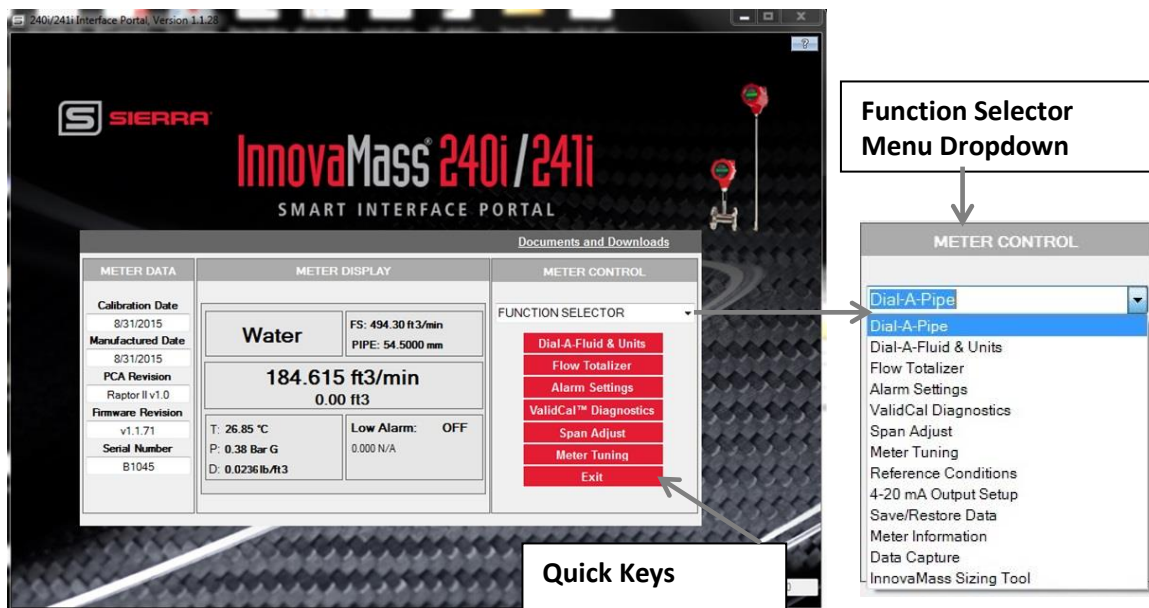

Figure 7. Main Menu-Meter Control Section
The “Meter Control” section enables direct configuration of the meter. The function selector dropdown menu gives access to all of the available meter function screens. There are also a series of quick key buttons, like “Dial-A-Pipe”, “Dial-A-Fluid & Units”, “Flow Totalizer”, “ValidCal”, “Meter Tune”, and “Meter Settings” to allow for rapid adjustment of application conditions and meter. See Figure 7.
Quick Keys on the main menu in the “Meter Control” section (see Figure 7) allow for fast configuration of your unit. The first quick key, “Dial-A-Pipe”, makes in-the-field pipe reconfiguration very convenient (241i Insertion meters only). You only need to know the type of pipe and either the pipe schedule or the inside diameter to make adjustments.
1. Click the “Dial-A-Fluid” quick key in the “Meter Control” section. See Figure 7.
- 1) Click the “Alarm Settings” quick key in the “Meter Control” section. See Figure 7.